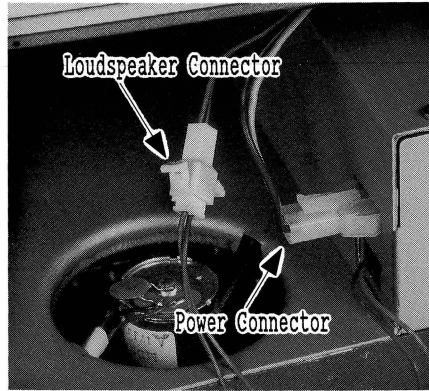

Figure 8
- 9) Fold the lower half of the chassis away from the upper half, placing a book or similar support of about the same thickness as the heatsink under the bottom half as shown in Figure 8.